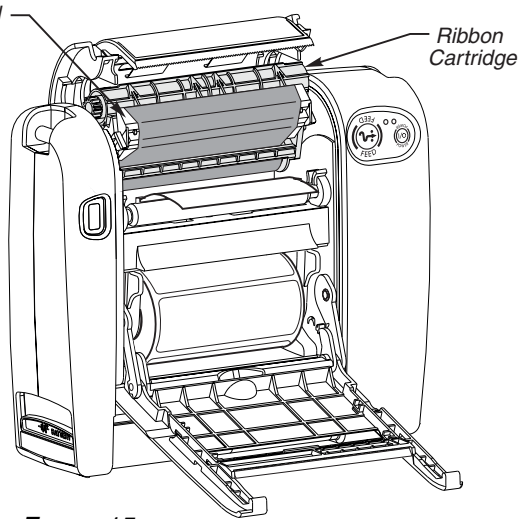

FIGURE 15
- Slide the ribbon cartridge past the printhead (refer to Figure 15). It will automatically move into the correct operating position.